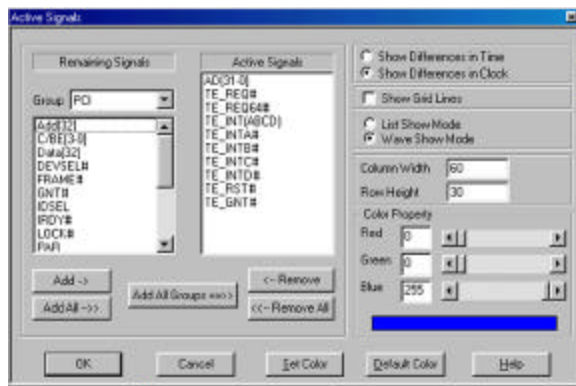

Figure 68 Timing Error Signal Selection
1. Click the **Setup Screen** button in the results display window to open the Timing Error Signal selection dialog box as shown in Figure 68.